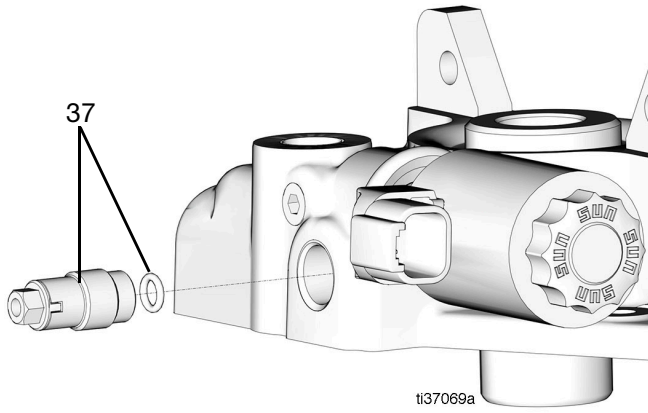

FIG. 49
35. Remove the check valve and o-ring (37) (FIG. 49).